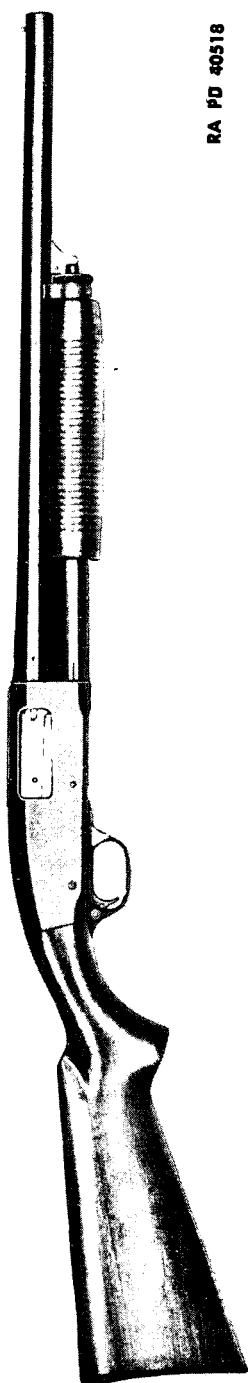

Figure 83—Right Side View—Riot Type—Remington Shotgun M31
(1) Name of maker, gage, and chamber length are stamped on the top of the barrel near the rear end.
(2) Serial number of gun is stamped on the left side of the barrel near the rear end.
(3) Name of maker, model, and serial number of the gun are stamped on the left side of the receiver.
b. This gun (figs. 83 and 84) is a manually operated, repeating shotgun of the slide-action, hammerless and take-down type. The gun is so constructed that the barrel can easily be removed by disengaging the barrel lock, positioned in the magazine plug, from the barrel lug and unlocking the barrel from the receiver by disengaging interrupted threads on the rear end of the barrel from like threads in the receiver. This construction facilitates cleaning and transportation.
NOTE: The Remington Shotgun, Model 31, is manufactured in three grades: the 31-A (fig. 83) (standard), 31 skeet (fig. 85) and 31-TC (trap). The riot gun, described herein, is the 31-A (standard) grade; and the skeet gun, the 31 skeet grade. In this technical manual the guns are divided into three types only, as explained, which apply to length of barrel and boring irrespective of grade (par. 31).
(1) The riot-type gun (figs. 83 and 84) is usually furnished with a 20-inch plain barrel, bored full cylinder and may not be equipped with a bayonet attachment.
(1) The stock of the gun is bolted to the rear end of the receiver, and the barrel locked to the forward end of the receiver by means of interrupted threads on barrel and in receiver, and fastened to the forward end of the magazine by means of a lug on the barrel and a stud on the magazine lock which is assembled to the magazine plug. The magazine tube is screwed into the receiver at manufacture and locked in position. The fore end and action bar group is mounted and operated on the magazine tube. The rear end of the action bar passes through the forward end of the receiver and engages with and operates the slide which in turn operates the breechblock and carrier, and cams back and cocks the hammer. The wooden grip of the fore end is thicker on the 31 skeet grade of gun (fig. 85) than in the 31-A grade gun (fig. 83) and extends some distance to the rear of the action bar tube when assembled (par. 50 j). The magazine lock of the skeet grade gun is held in engagement with the barrel lug by spring force while that of the 31-A grade gun is screwed into engagement.
(2) The receiver contains the operating mechanism and to its lower rear end is attached the trigger plate to which is mounted the firing mechanism and the action bar lock. The receiver is open at the bottom to permit loading and at the right side for ejection of the fired shell cases. The carrier pivots in the inside of the receiver and acts to raise the shell to bore line in loading. The right and left shell stops pivot in the forward end of the receiver to the rear of the magazine opening. The ejector is seated in a T-slot in the left wall of the receiver.
(3) The breechblock contains the right and left extractors, the firing pin, and their components and mates with and is operated by the slide by means of a hooked lug on the rear lower face of the breechblock seating in a like aperture in the top of the slide. When cammed up by the slide on the forward movement, the top rear end of the breechblock seats in front of a locking shoulder cut in the top of the receiver to lock the breechblock in position. A rib staked in the top of the receiver acts
NOTE: The trigger plate group of the 31-A grade gun (figs. 83 and 84) and the 31 skeet grade gun (fig. 85) are different in design. The main difference is in the action bar lock. In the 31-A grade gun the lock is operated by a torsion spring seated in the lock and bearing on a lug on the hammer, while in the 31 skeet grade gun, it is operated by the mainspring follower which keys with the action bar lock spring housing seated in the lock. (The riot-type gun (figs. 83 and 84), is a 31-A grade gun, and the skeet-type gun (fig. 85) is a skeet grade gun.)